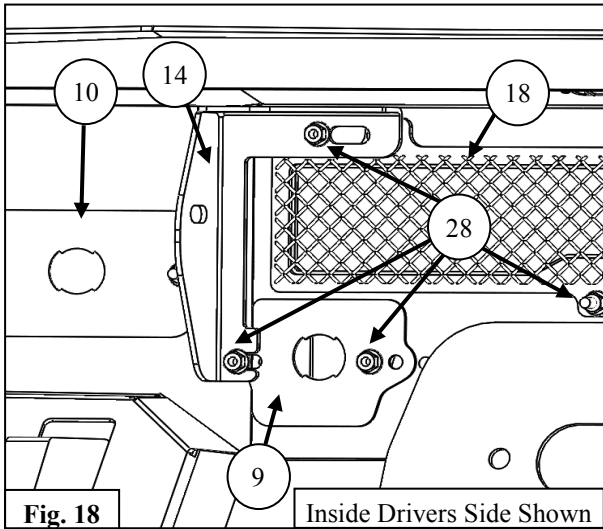

Fig. 18
18. Install all of the bumper accessories prior to installing the bumper onto the vehicle. See **Figure 18 & 19** for reference on installing the LED Center Brackets (14-15).